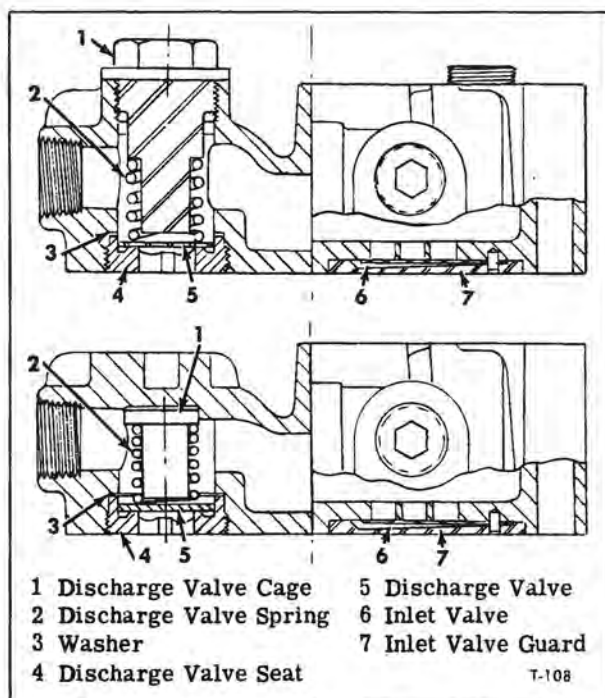
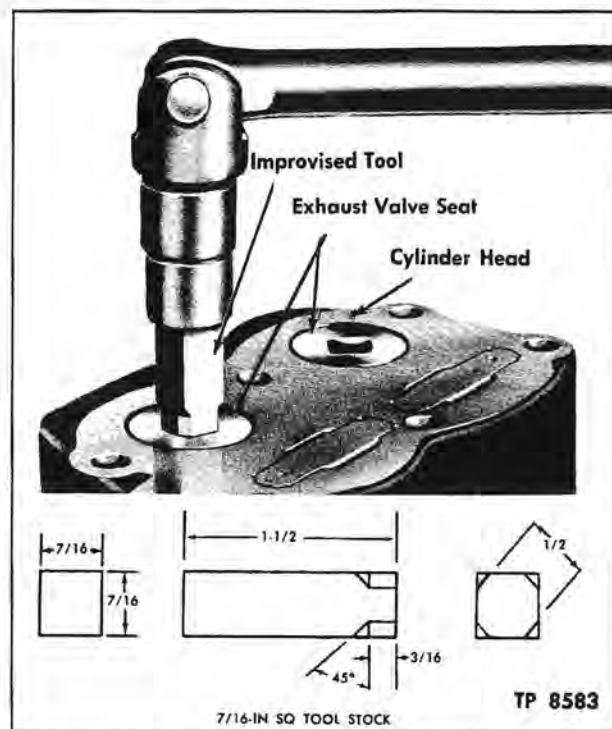

Figure 4—Cross Sections of Cylinder Heads
Figure 6—Removing or Installing Discharge Valve Seats
Two different cylinder heads are used on these compressors (see fig. 4). On one type the discharge valve is removed from the top; on the other, the discharge valve is removed from the bottom. Proceed as follows:
1. If valves are to be removed from the top (top view, fig. 4), remove two discharge valve cages from top of the cylinder head; then lift two discharge valve springs out of head. Invert head to permit two discharge valves to fall out.
2. If valves are to be removed from the bottom (bottom view, fig. 4), remove discharge valve seat from bottom of cylinder head, using a short length of 7/16-inch square tool stock with corners ground off as a wrench adapter. Refer to figure 6 for adapter dimensions and application. Then set head upright and tap lightly to permit discharge
cavities in bottom of cylinder head and install discharge valve seats with copper washers and tighten firmly (fig. 6). Bottom of valve seats must be flush with or slightly inside the bottom face of cylinder head when fully tightened.